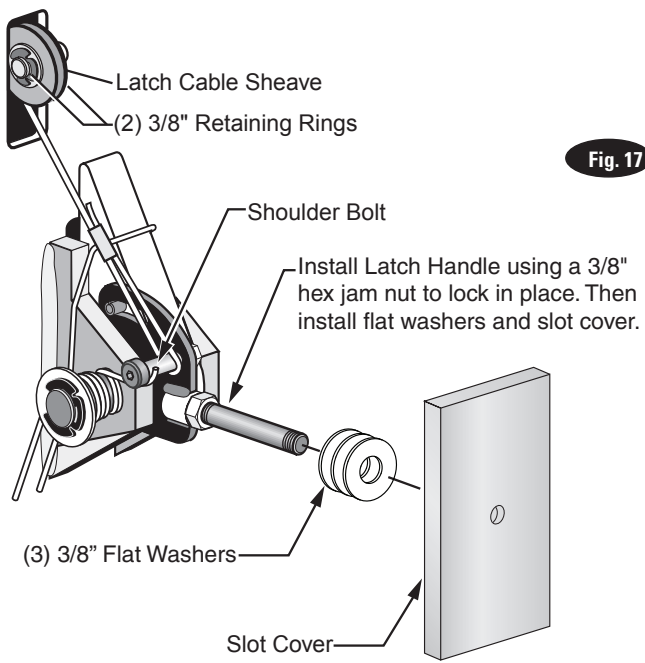
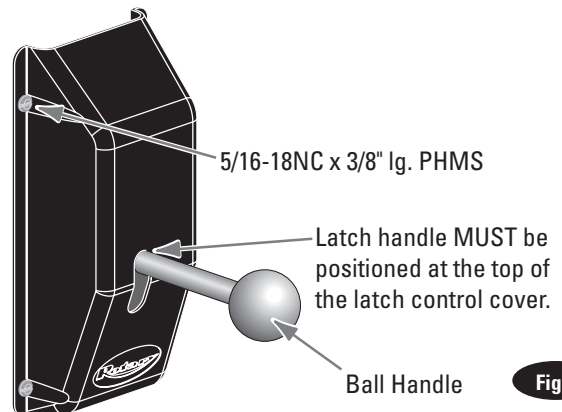

Fig. 17
Fig. 20
- A) Install latch cable sheave and retaining rings in upper slot of power unit column as shown, Fig. 17.
- B) Slip loop end of cable over end of shoulder screw on right side latch control plate, Fig. 17.
- C) Feed the other end of the cable through the latch cable sheave slot making sure that the cable is running under the bottom side of the latch cable sheave and inside the right column, Fig. 17.
- J) At this point you MUST install the latch handle, jam nut, and right column latch cover Fig. 17 & Fig. 20. Install latch handle ball, Fig. 20.